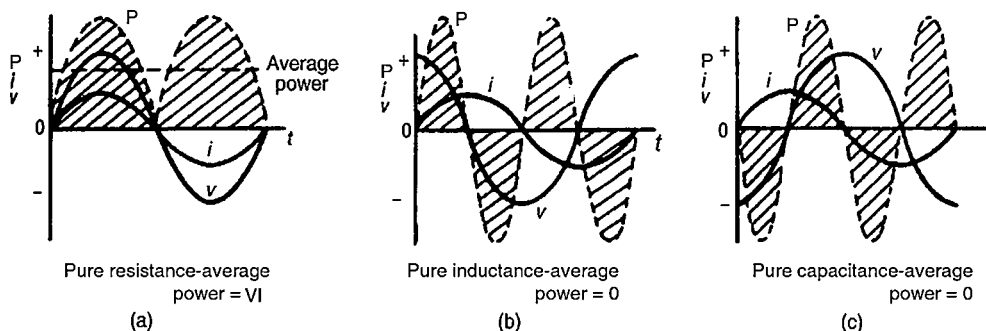

Figure 15.23
In Figs. 15.23(a)–(c), the value of power at any instant is given by the product of the voltage and current at that instant, i.e. the instantaneous power, $p = vi$, as shown by the broken lines.
- (a) For a purely resistive a.c. circuit, the average power dissipated, P , is given by: $P = VI = I^2R = V^2/R$ watts (V and I being rms values) See Fig. 15.23(a)
- (b) For a purely inductive a.c. circuit, the average power is zero. See Fig. 15.23(b)
- (c) For a purely capacitive a.c. circuit, the average power is zero. See Fig. 15.23(c)